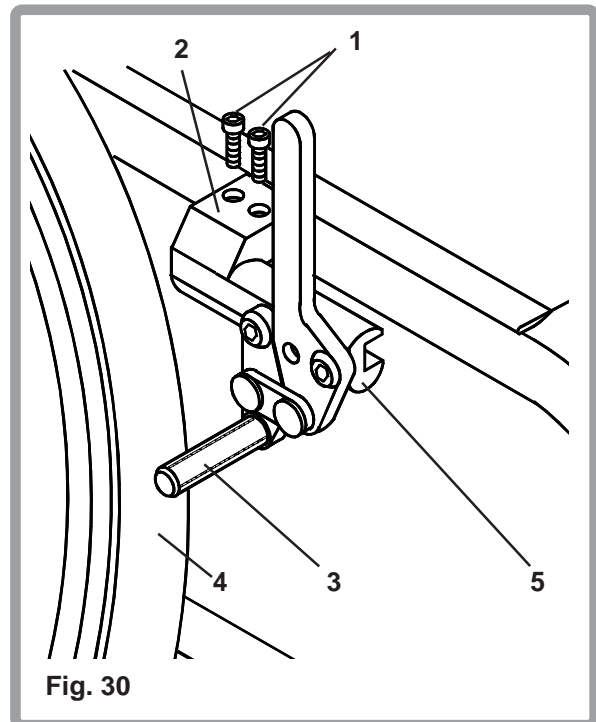

Fig. 30
To adjust, loosen the screws (1) on the top or side of each clamp (2). Using a 5mm Allen key turn one of the screws anticlockwise $\frac{1}{4}$ turn. Repeat the same process with the second of the two screws (Fig. 30). Loosen the screws until the clamp can slide freely. Slide the clamp towards the rear wheel until the grip bar (3) embeds into the tyre (4) approximately 4mm ($\frac{3}{16}$ ") when in the locked position. Tighten the screws to a torque setting of 15Nm. Some adjustments to the wheel lock position can be accomplished without moving the clamp. To adjust, loosen the two screws as above. Slide the mounting bar (5) forward or backwards and rotate it to the correct angle position. The grip bar should embed into the tyre approximately 4mm ($\frac{3}{16}$ ") when in the locked position. Tighten the screws to a torque setting of 15Nm.